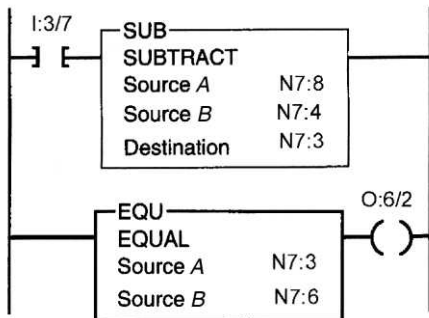

Figure 11-19 Program for question 11.
11. The program of Figure 11-19 is telling the processor to energize output O:6/2 whenever (a) _____ is true and the difference between the values stored in words (b) _____ is equal to the value stored in word (c) _____.